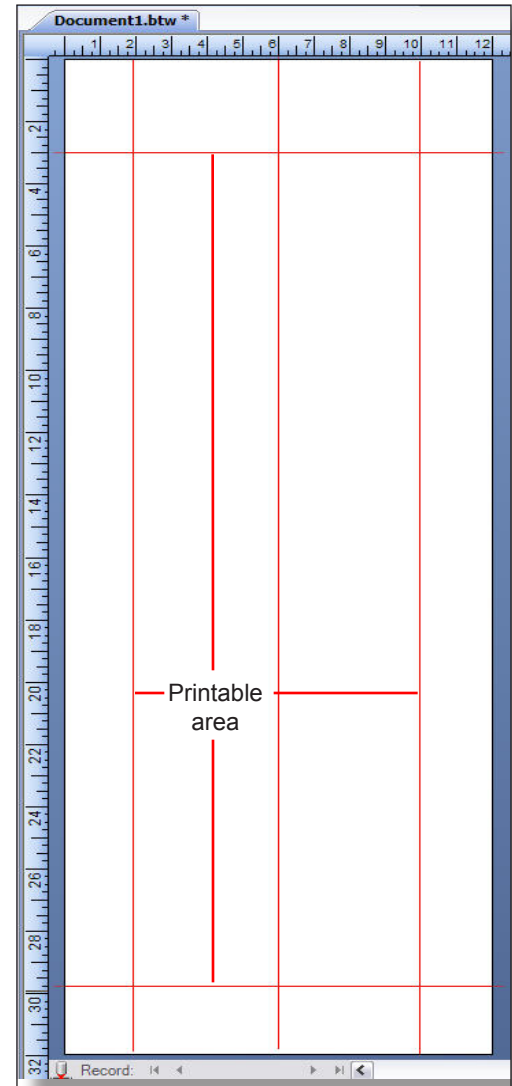

Fig. 5
5. The closed end of the bag has been glued and as a result, can create uneven surfaces which may not print well. (Fig. 1) While it is possible to print over this condition, results will be varied and it is generally best to avoid this region. Measure up from the bottom of the bag to identify this area and place a guideline in the layout to represent it. In our example, we had a 2" glue flap on the bottom of the bag and added 1/4" to that dimension for a buffer. The guideline was placed up 2 1/4" from the bottom of the bag or at the 29.75" mark. You have now identified the printable area of the bag. (Fig. 5)